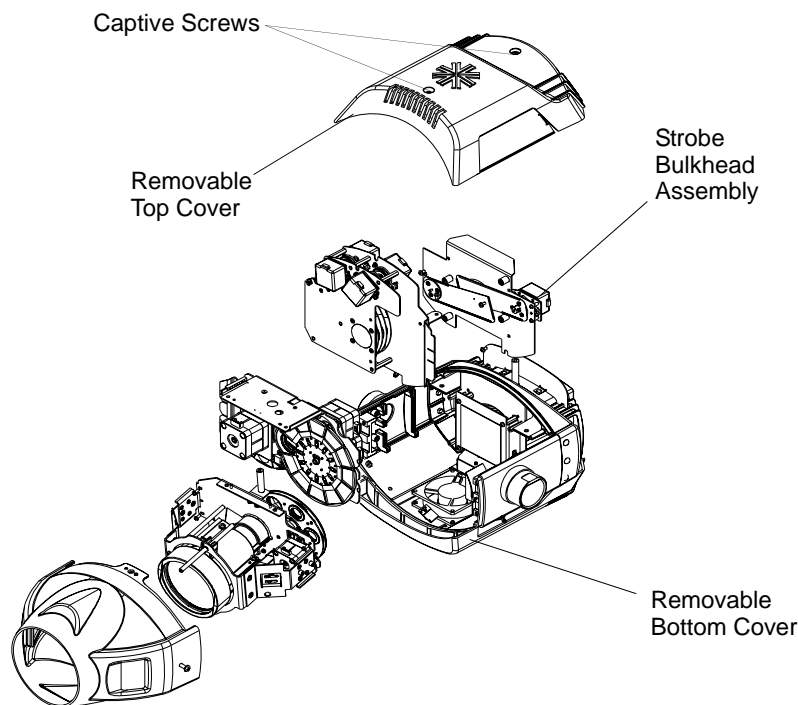

Figure 2-5: Dimmer Bulkhead Replacement
- a. Loosen two captive screws and remove top cover as shown in Figure 2-5 (the cover is attached by tether).